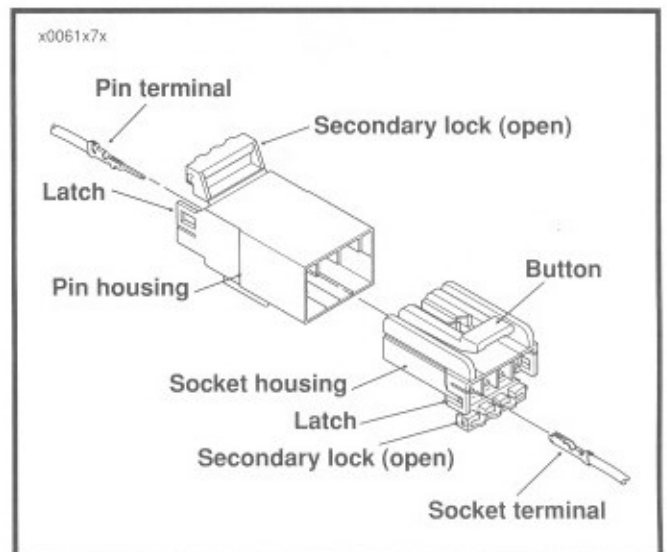

Figure 2-91. 4-Pin Amp Multilock Connector
7. See Figure 2-91. Disassemble socket housing following procedure in Chapter 7 page 7-82.